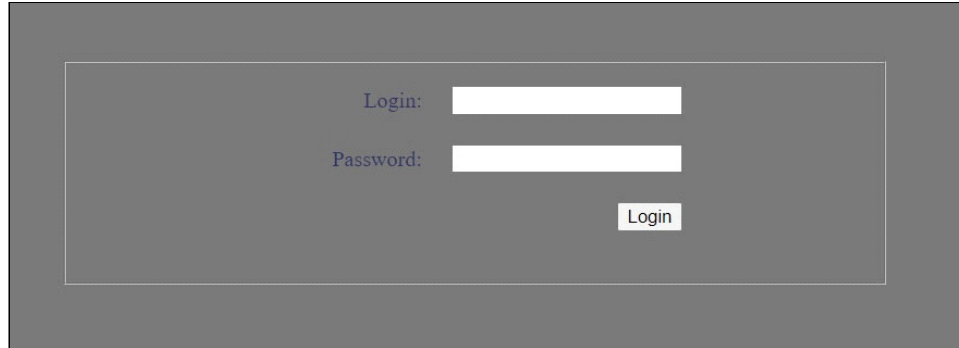

Figure 5-141 TSSC login screen
1. Log in to TSSC, see Figure 5-141.